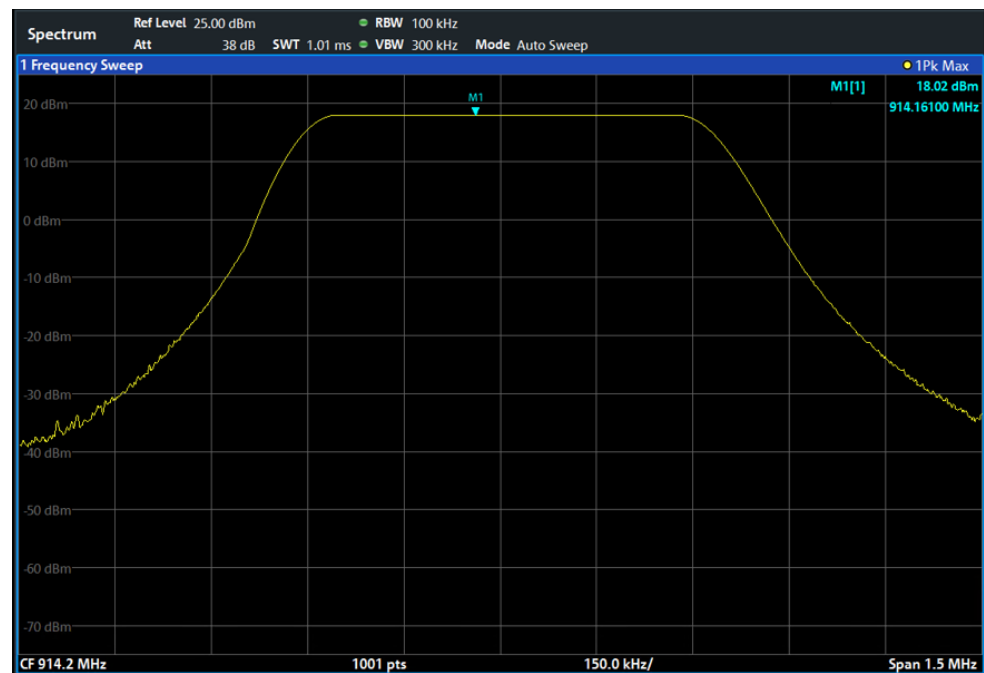

Figure 2-12: Measurement of maximum radiated power as reference value with  $f_{TX} = 914.2$  MHz
10. Press the *Freq* key and enter the transmit frequency set on the DUT. Retain all other settings. Wait until the trace is stable. Using the peak marker, note down the value as the reference value  $\text{Ref}_{\text{high}}$  (Figure 2-12).